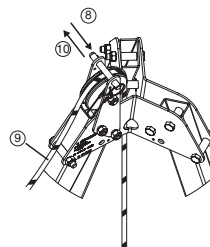

Fig. 10
8. Remove the ball screw located above the return pulley at the top of the tracpode tripod (Fig. 10, 8).
9. Pass the derope™ halyard around the return pulley (Fig. 10, 9).
10. Replace the ball screw in order to prevent the halyard from escaping the return pulley (Fig. 10, 10).